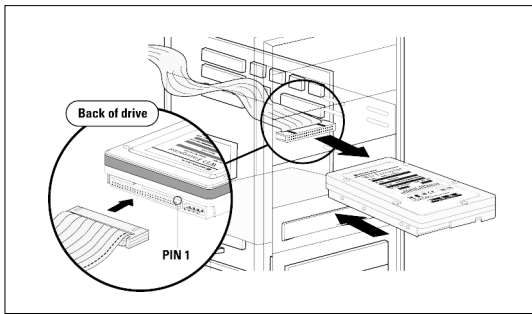

Figure 12. Attaching the 50-pin SCSI Cable
If your system configuration allows the use of an activity LED external to the WD Enterprise drive, you can power the LED from the drive. Pins 10 and 29 are dedicated to LED support, as shown in Figure 12. To install an external activity LED, connect the positive lead (anode) of the LED to pin 29 and the negative lead (cathode) to pin 10.
- 4) Connect the ribbon cable connector to the hard drive by matching pin 1 on the ribbon cable with pin 1 on the hard drive connector. Refer to Figures 12 and 13 to correctly identify pin 1 for each connector type.